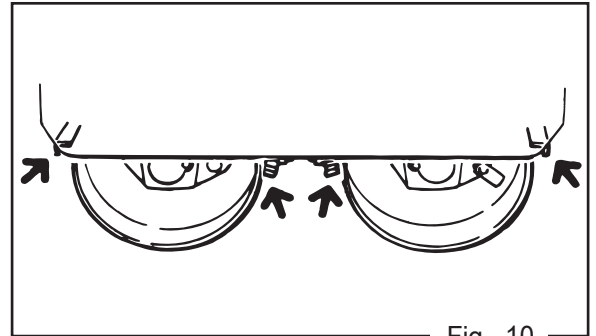

Fig. 10
7.6 Scraper on Each Drum (Fig.10)